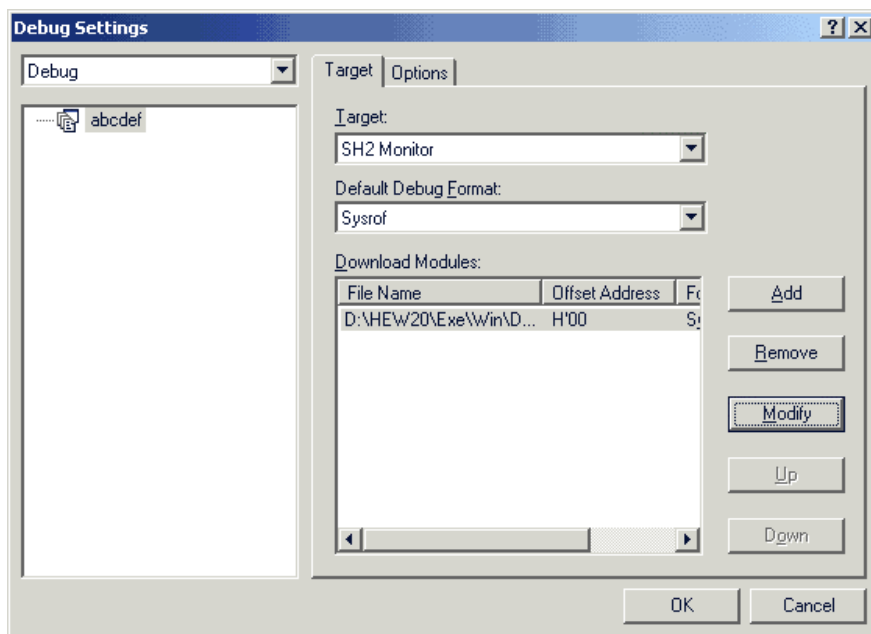

Figure 2.9: Debug Settings Dialog (“Target” Pane)
It is also possible to manually choose download modules after the project creation. This is achieved via the debug settings dialog shown in figure 2.9. This dialog allows you to control the debug settings throughout your workspace. The tree on the left of the dialog contains all of the current projects. Selecting a project in this tree will then show you the settings for that project and the session selection in the session drop list. It is possible to select multiple sessions in this list box or all sessions. If you select multiple sessions you can choose to modify the settings for one or more sessions at once. The debug settings dialog displays the following debug options:
1. Select **[Options->Debug Settings...]**. The dialog shown in figure 2.9 will be displayed.